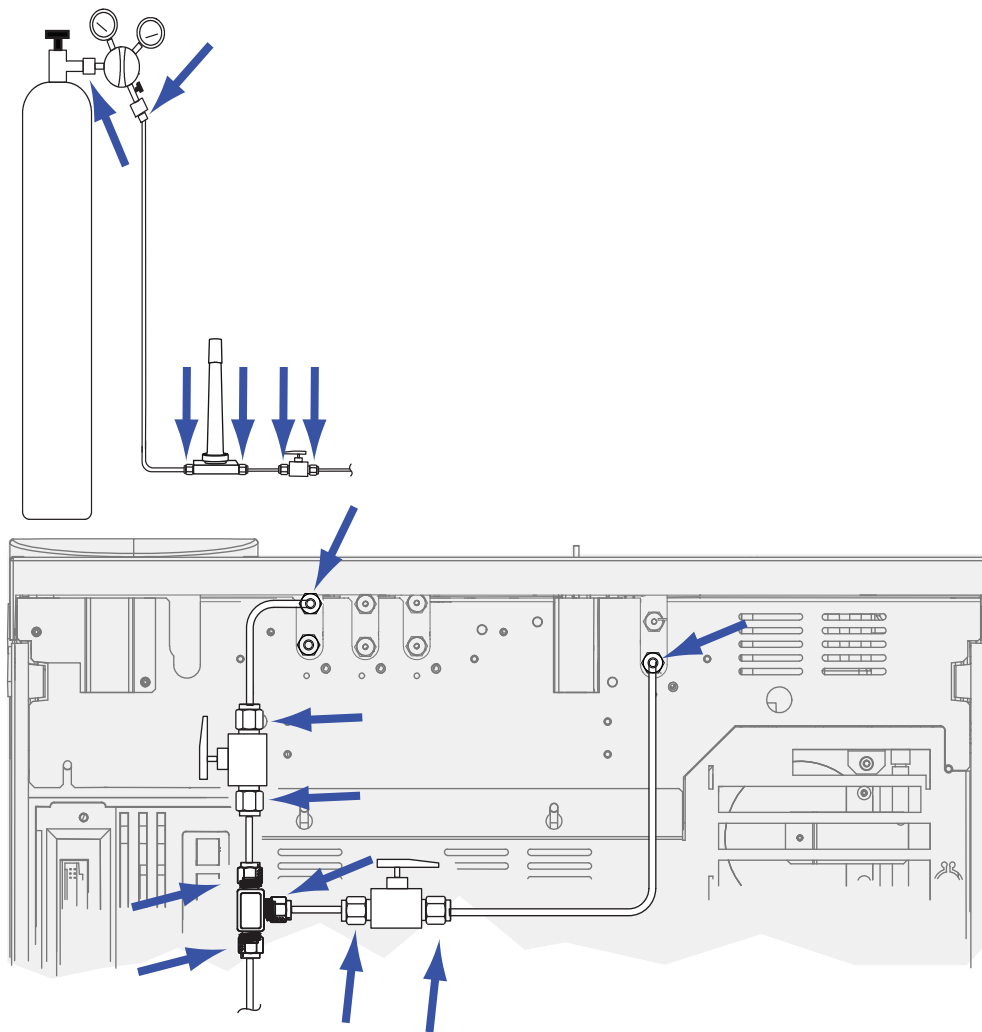

Figure 12 Locations to check for leaks
- 4 Wait 10 min. If there is a pressure loss greater than 7 kPa (1 psi), there is a leak in the external connections. Use the leak detector to check each fitting for leaks. See Figure 12.